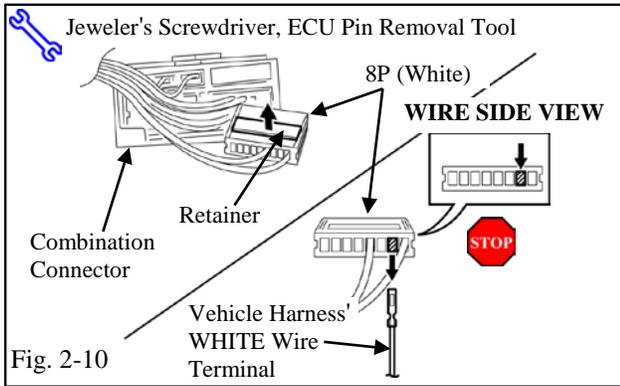

Fig. 2-10
- (p) Using a small jeweler's screwdriver, lift up the terminal retainer on the back of the 8P connector. Locate the WHITE wire in the 8P connector. Using the ECU pin remover tool or a small jeweler's screwdriver, release and pull out the terminal for the WHITE wire. (Fig. 2-10)
- (1) Do not pull out the retainer.
- (2) Turn the connector so the wires face you and the retainer is on top.